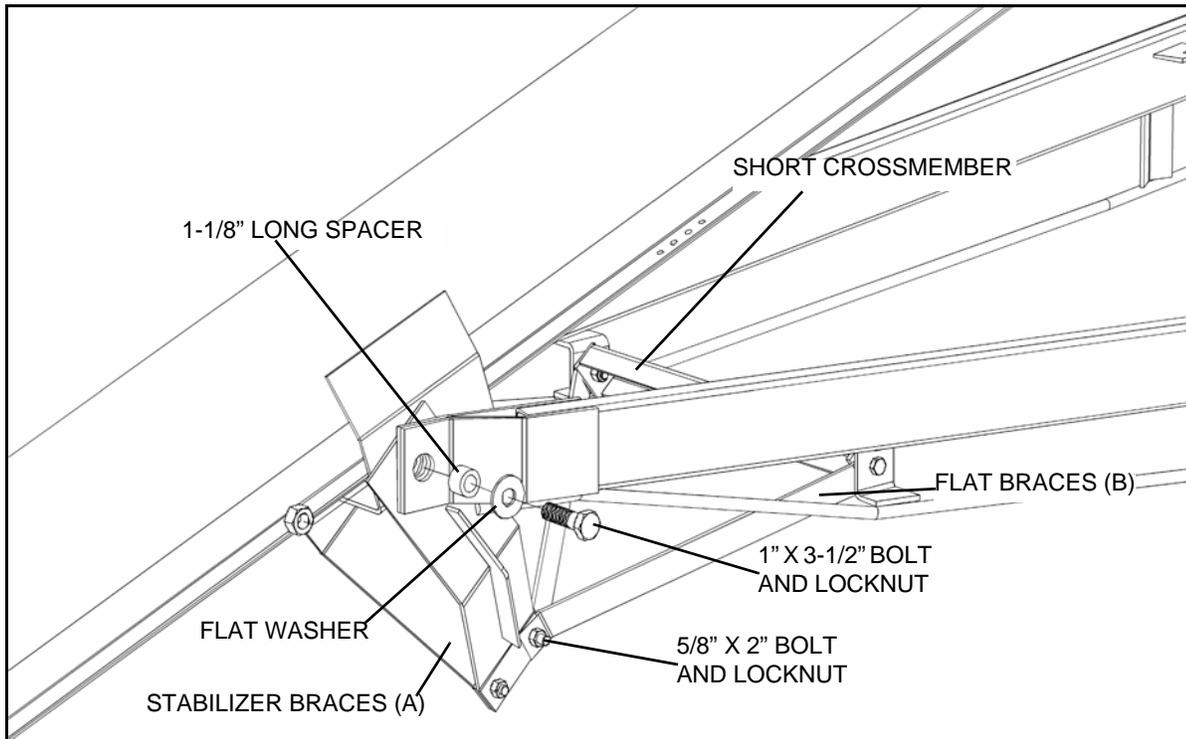

Figure 3.18
2. Attach short crossmember loosely with two 5/8" x 2" bolts and locknuts, sandwiching flat braces (B) between crossmember and frame bracket. Do not tighten bolts until undercarriage is beneath tube assembly (Figure 3.18).
12. Position stabilizer braces (A) (Figure 3.18) and attach lower reach arms to bracket on tube with long spacer bushings (1-1/8" long), flat washers, and 1" x 3-1/2" bolts and locknuts. **Tighten securely.** Reach arms pivot on the spacer bushings.